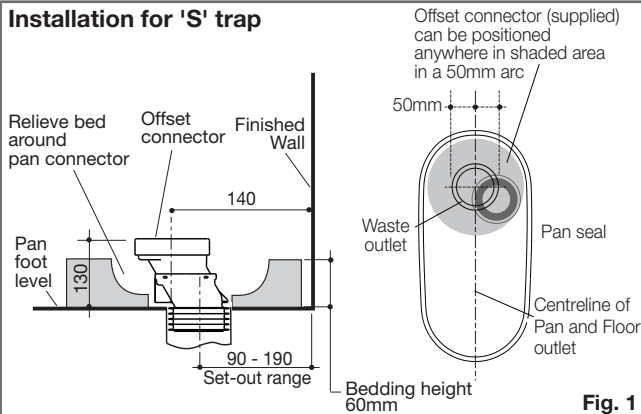
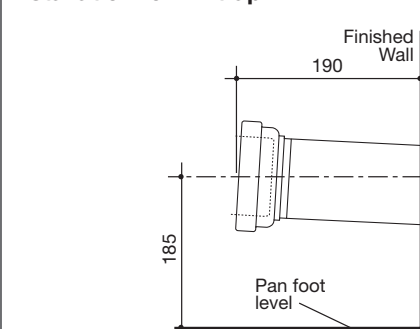

Fig. 1
Fig. 2
The Luna 'S' trap pan installation is detailed in **Fig. 1** and 'P' trap pan in **Fig. 2**. The recommended set-out for 'S' trap installations is 140mm from the finished wall. The 50mm offset connector (supplied) is available to achieve a set out of 140mm, where the soil pipe is between 90mm min. and 190mm max. from the finished wall. The connector also allows for sideways positional movement, as detailed in **Fig. 1**.
- 3- Prepare bedding sand cement mixture 3:1 to depth of 60mm as detailed in **Fig.1**.